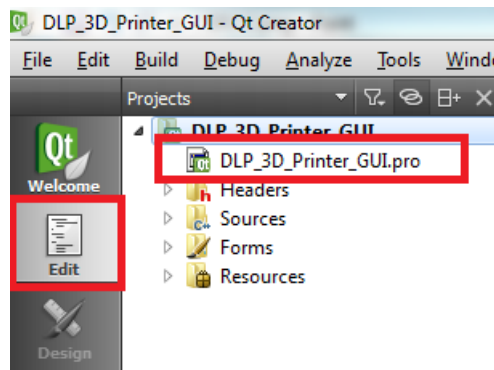

Figure 4-36. Opening the QT .pro for Editing
4. Click the **Edit** tab on the left of the Qt IDE, and in the projects view box, open the file named "DLP_3D_Printer_GUI.pro", shown in Figure 4-36, to edit its contents.